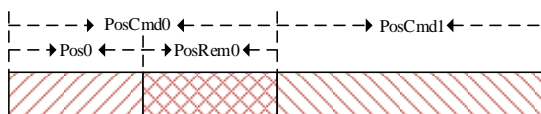

Fig. 12.13 Schematic diagram of the operation of the incremental position command
① The reference point of the incremental position is the target value of the current position command. As shown in Figure 12.13, the first segment position command is set to $PosCmd0$, and after running the pulses of $Pos0$, the operation ends, and the remaining pulses of $PosRem0$ are not completed. If the second segment incremental position command $PosCmd1$ is inserted at this point, the total number of pulses run by the second segment position command, is $PosCmd1 + PosRem0$, and the final operation position value is $PosCmd0 + PosCmd1$.